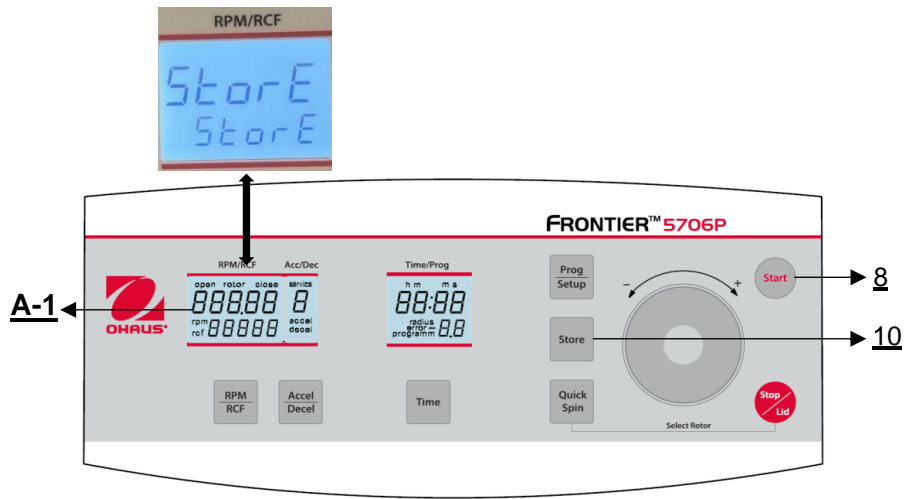

Figure 29
All changed settings must be confirmed by the key **“Start”**(8) or **“Store”** (10). The word **“Store”** appears in the display **“RPM | RCF”** (A-1) – Only then the pre-selections are valid (see **Figure 29**). After you have stored the settings, you can change to normal program mode again by switching off the centrifuge for a short while.